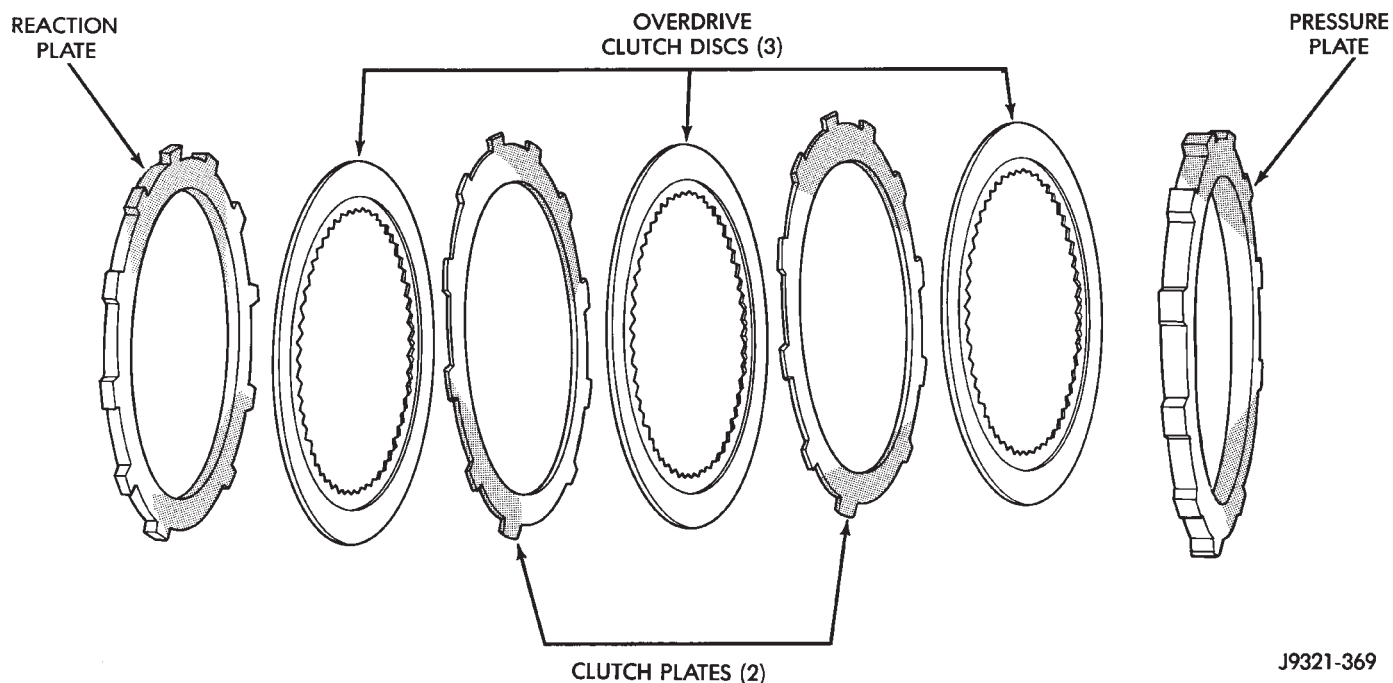

Fig. 236 42RE Overdrive Clutch Components
(3) Assemble overdrive clutch pack (Fig. 236).